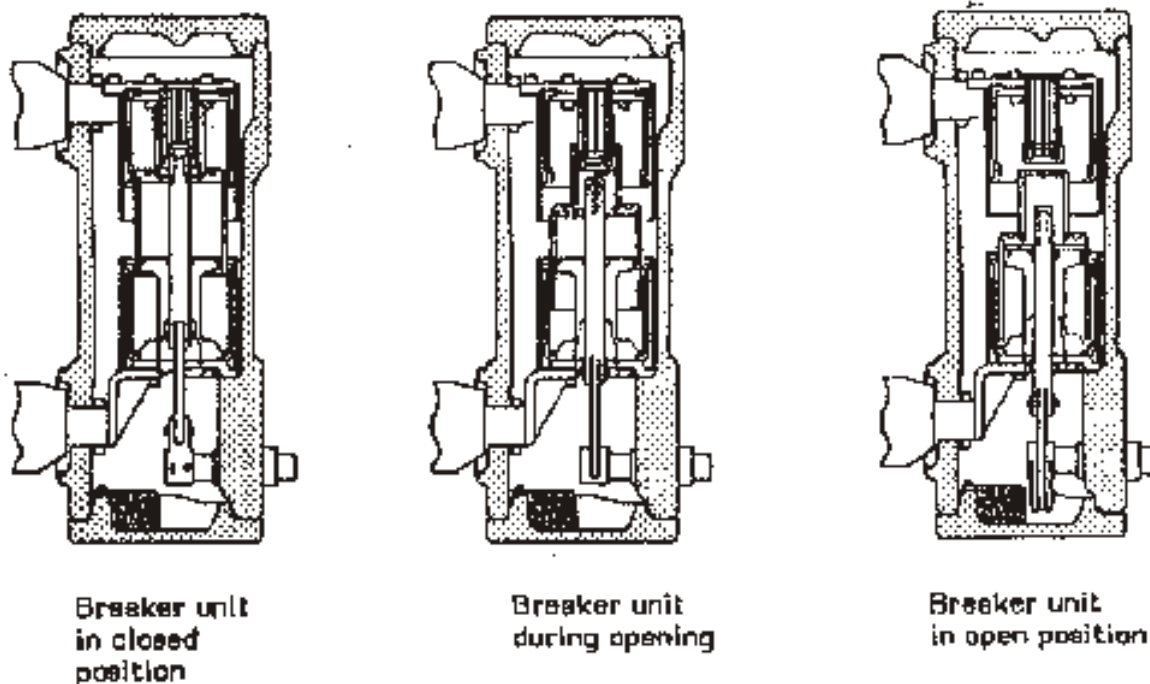

Fig 10
The SF₆ breaker type HPA operates on what is usually referred to as the puffer principle. This involves compressing the gas between a static piston and a movable cylinder during the interruption action. The compressed gas is then blown through a nozzle in which the arc is taking place. A combination of careful attention to design and the use of proven components has meant that arcing times in the new HPA breaker have been reduced to a minimum. As a result, the new breaker contacts will normally not need replacement during the service life of the breaker. The breaker pole operation is shown in fig. 10.
The construction of the operating mechanism is shown in figure 10. The device has two shafts. The lower shaft (6) is connected to the breaker poles via links and is directly actuated by the opening springs (5). The upper shaft (3) is connected directly to the closing spring (11). These two shafts are linked via the driving disc (9) and the link (12), and by the trip free device (14). The upper shaft is also connected to the charging device via the trip-free device (1) and the link (4).